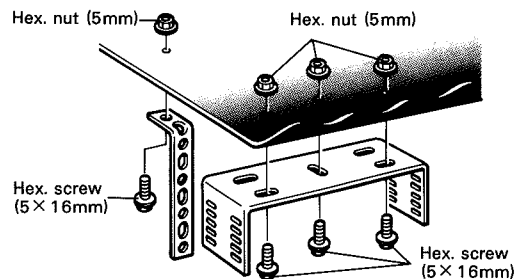

Fig. 4
4. Install the mounting angle and strap on the dashboard. (Fig. 4)